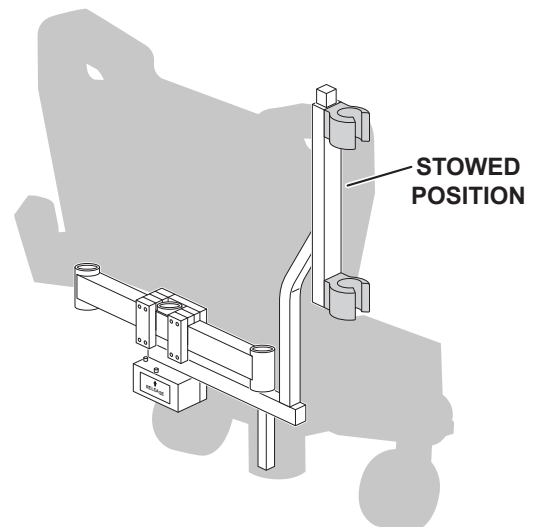

Figure 12. Stow the Bed Mount
4. Rotate the bed mount to the side/transport position until further needed (Figure 12).